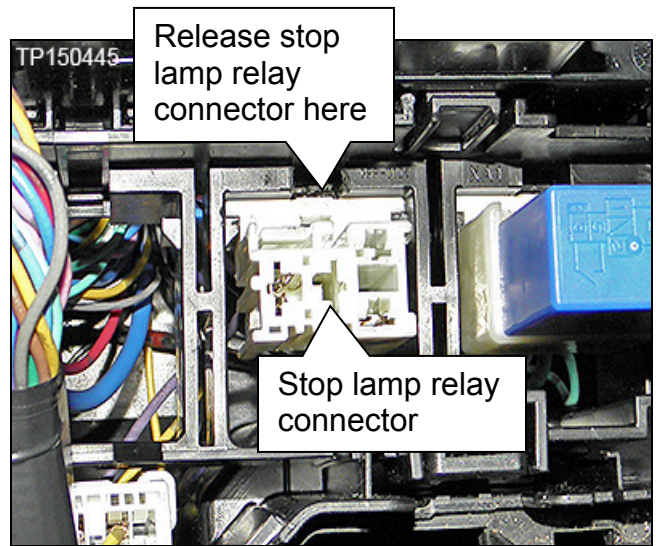

Figure 4
5. Release the stop lamp relay connector (Figure 4).